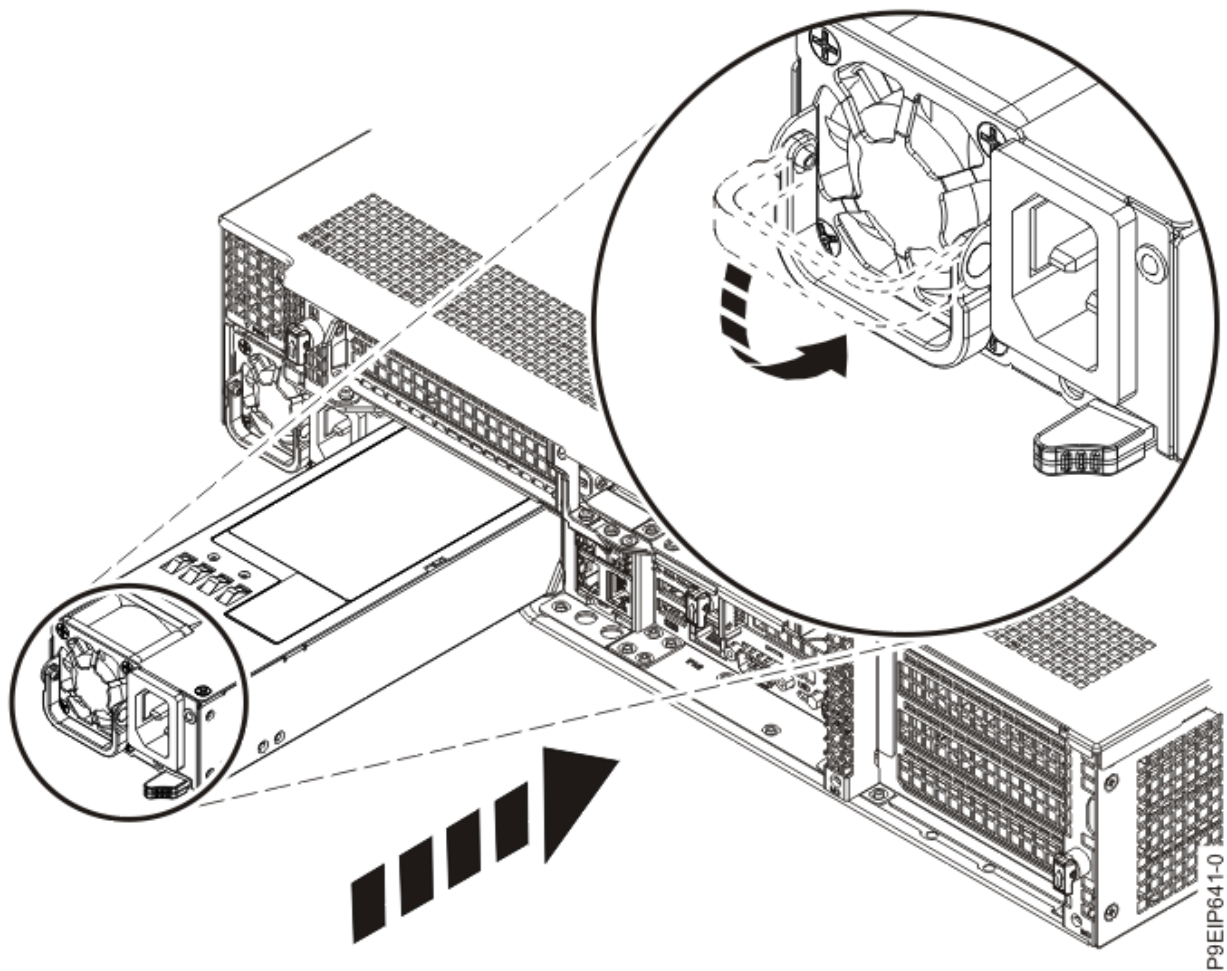

Figure 34. Replacing a power supply in the system
2. Align the power supply with the bay as shown in Figure 34 on page 36. The fan is on the left; the plug is on the right. Slide the power supply into the system until the latch locks in place.